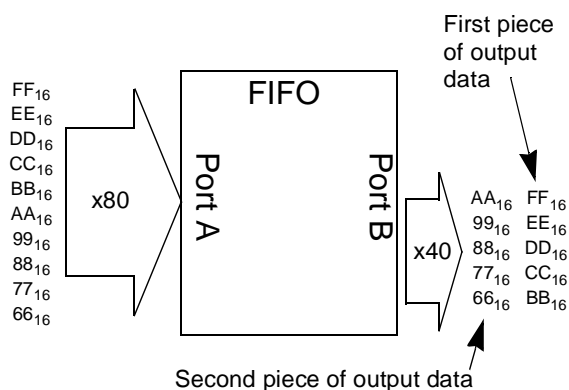

Figure 2. x80 to x40 Bus Match, Little Endian.
The FIFO can be configured to transfer data from Big to Little Endian and vice versa using the BE/FWFT pin with a master reset (MR), as well as to accommodate different bus-widths. For instance, card 1 may have a Big Endian CPU with 64-bit data bus, and is required to interface to a 32-bit back plane. In this scenario, the FIFO can be configured to interface with the on-board data bus using an 80-bit interface (SIZE1A and SIZE2A pins both tied to ground) and interface with the backplane with a 40-bit bus through the bus-matching function (SIZE1B tied to ground while SIZE2B tied to VDDQ). If the receiving card is a Little Endian machine, all that is required of the FIFO is during the master reset operation, the BE/FWFT signal is held LOW at the rising edge of MR. Data at the FIFO outputs will then be in Little Endian format. Unused outputs can be left unconnected. See Figure 2.